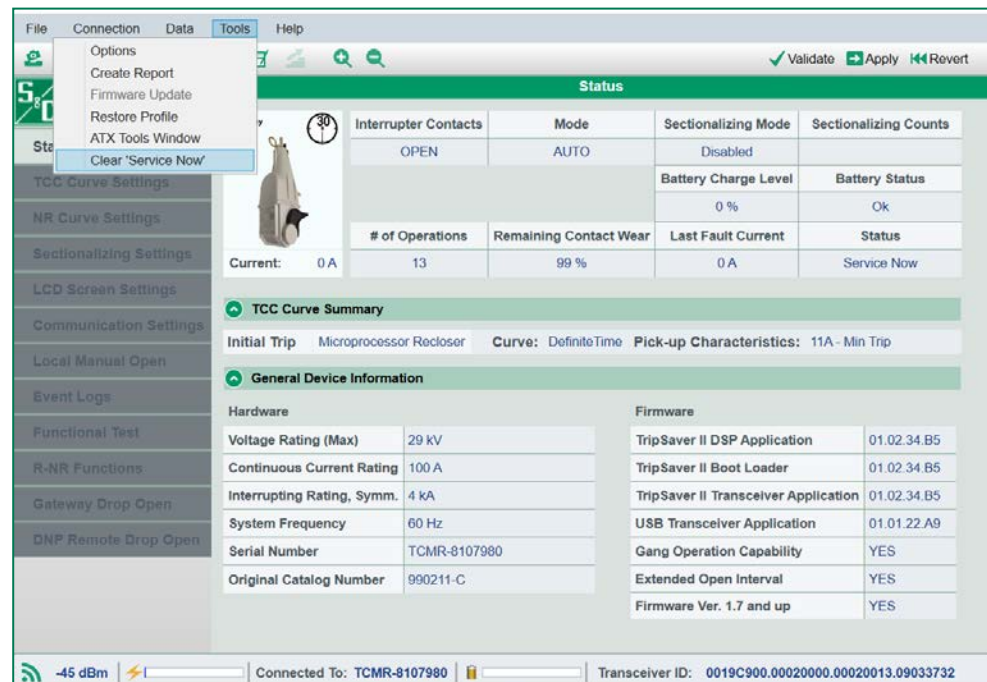

Figura 158. Item "Clear Service Now" no menu Tools.
PASSO 5. Pelo menu **Tools**, clique no item **Clear 'Service Now'**. Ver Figura 158.